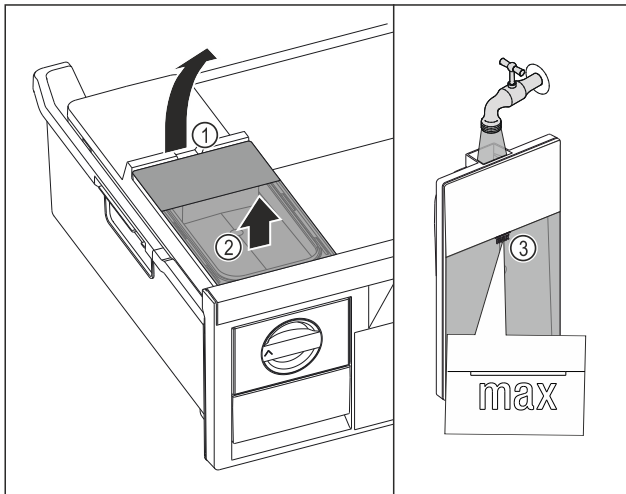

Fig. 79
- ▶ Lift the water tank at the recess Fig. 79 (1).
- ▶ Remove the water tank by lifting it upwards. Fig. 79 (2)
- ▶ Fill the water tank with drinking water up to the mark Fig. 79 (3).